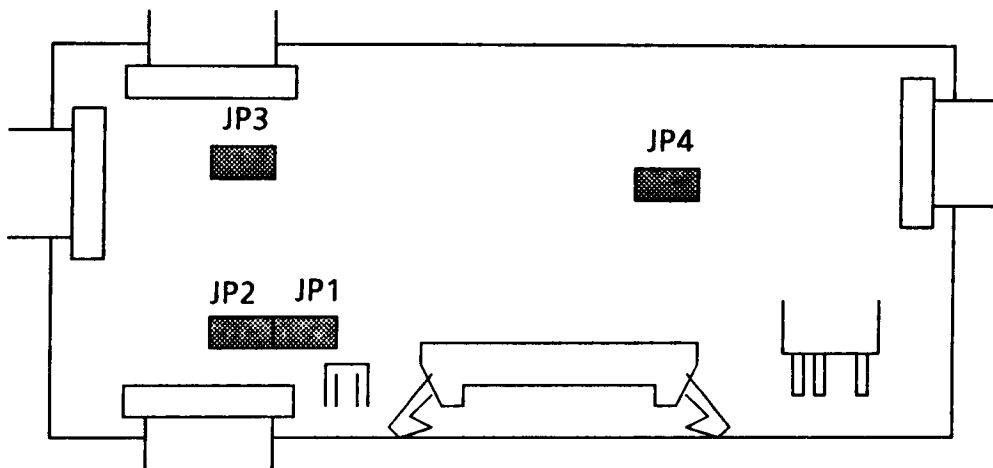

FIGURE 2-10 PDP Jumper Straps
1. Check that the jumper straps are set correctly (as shown in the figure 2-10 and described in table 2-10.)